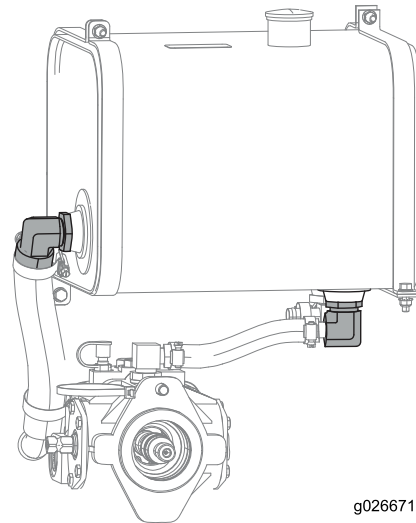

Figure 46
10. Remove the elbow adapters and remove and clean the filter screens with compressed air (Figure 46).